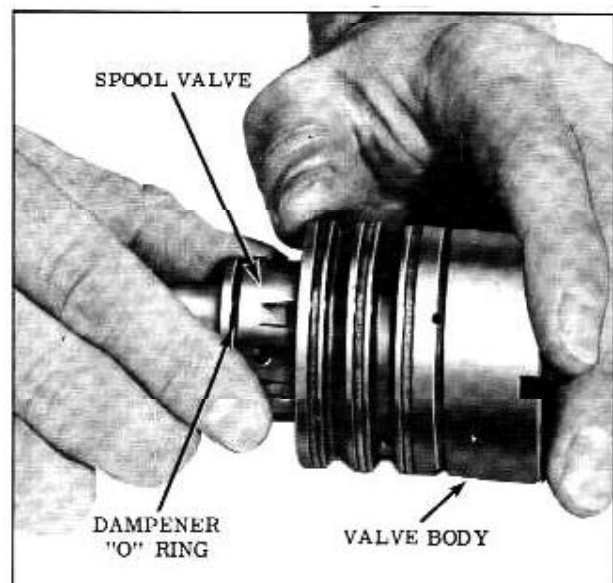

Fig. 4-85 Removing Spool Valve
3. Push the spool valve out of the flush end of the valve body until the dampener "O" ring is exposed, then carefully pull the spool from the valve body while rotating the valve. (Fig. 4-85) If the spool valve becomes cocked, carefully realign the spool valve then remove.